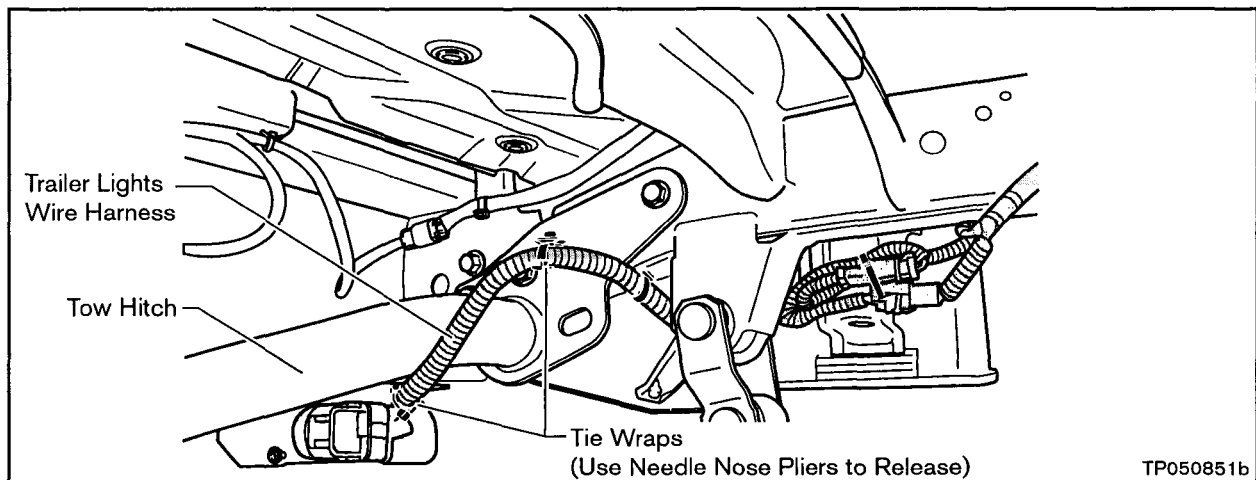

Figure A2
- a. Carefully use needle-nose pliers to release the Harness Tie Wraps from the Tow Hitch. You'll use the Tie Wraps again later (see Figure A2).